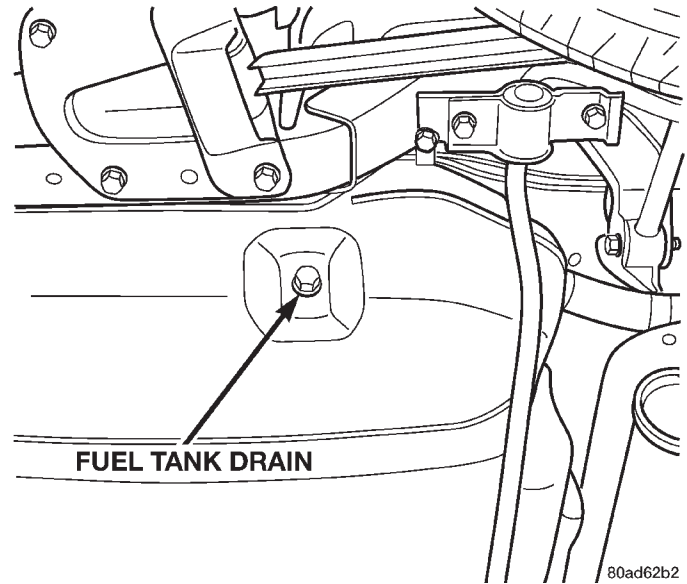

Fig. 20 Fuel Tank Drain
(4) Drain fuel tank, refer to Draining Fuel Tank in the Fuel Delivery section (Fig. 20).